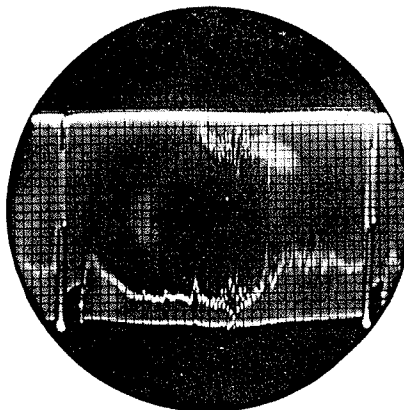

Figure A-2. Output of first sync clipper showing video in sync.
vertical sync pulses as shown in figure A-2.
4. Set the contrast and brightness controls to obtain a normal picture and adjust the a-g-c control until the picture brightens up. This will usually cause video to appear at the plate of the first sync amplifier, as shown in figure A-2.